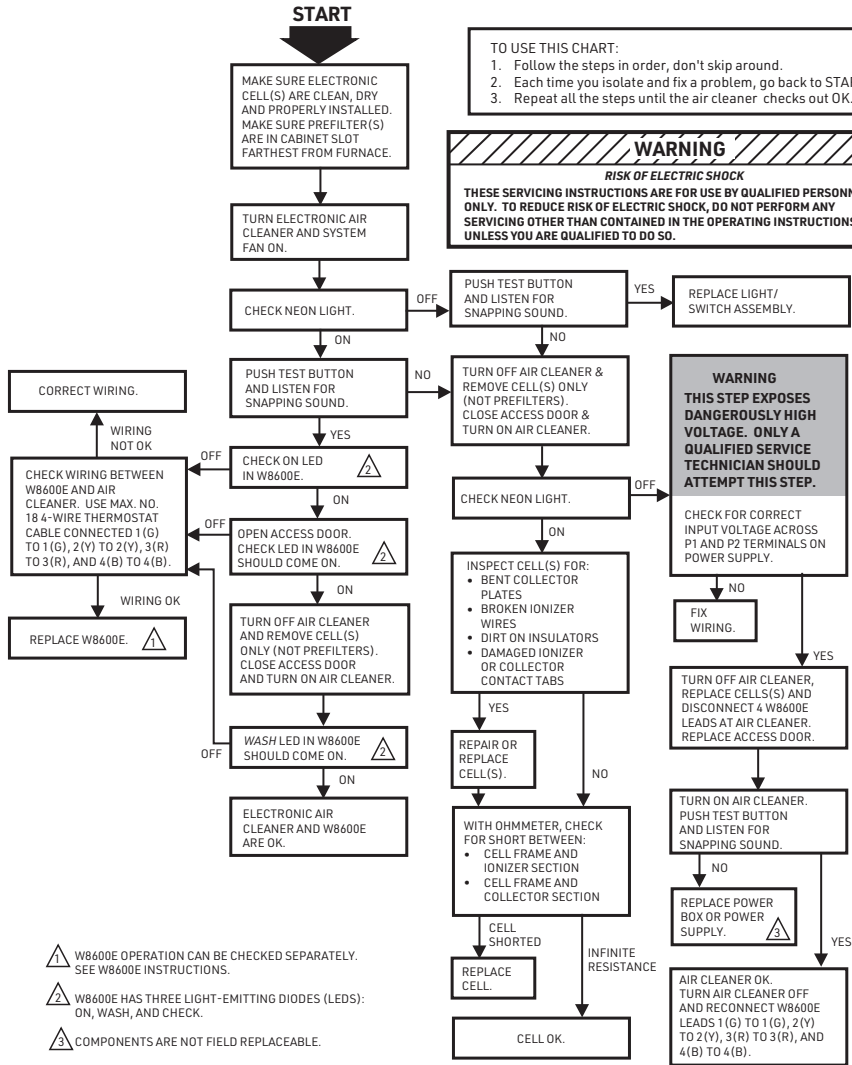
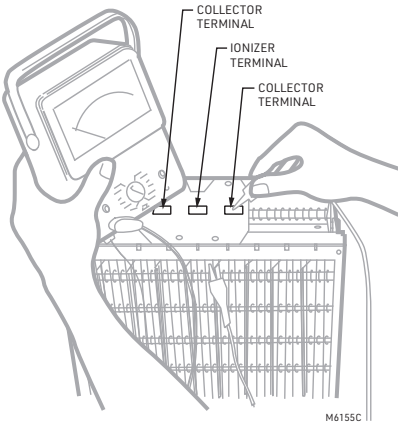

Fig. 15. Troubleshooting air cleaners with solid-state performance indicator.
Fig. 17. Use ohmmeter to check electronic cells for short circuits.
- Test meter with 15 kVdc probe or equivalent. The electronic air cleaner troubleshooting charts, Figs. 15 and 16, show how to quickly isolate a problem in the air cleaner. Although a meter is needed for some steps, see Fig. 17, the primary diagnostic tools are the neon light and the test button.